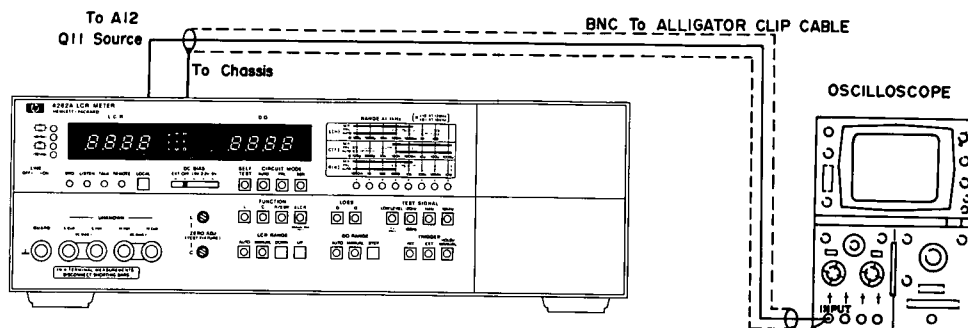

Figure 5-3. A12 Board Offset Adjustment.
- a. Connect BNC to dual alligator clip cable between oscilloscope and transistor A12Q11*source on the A12 Range Resistor Board Assembly (See Figure 5-3).